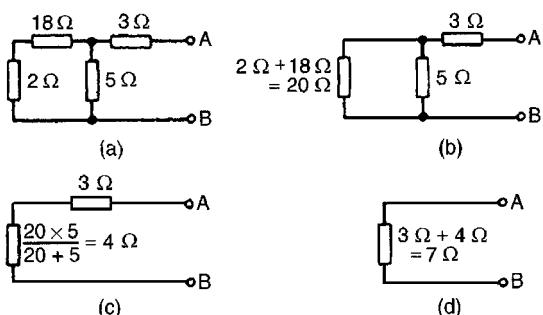

Figure 13.31
- (iv) The resistance 'looking-in' at terminals AB in Fig. 13.31(a) is obtained by reducing the circuit in stages as shown in Figures 13.31(b) to (d). Hence the equivalent resistance across AB is 7Ω .